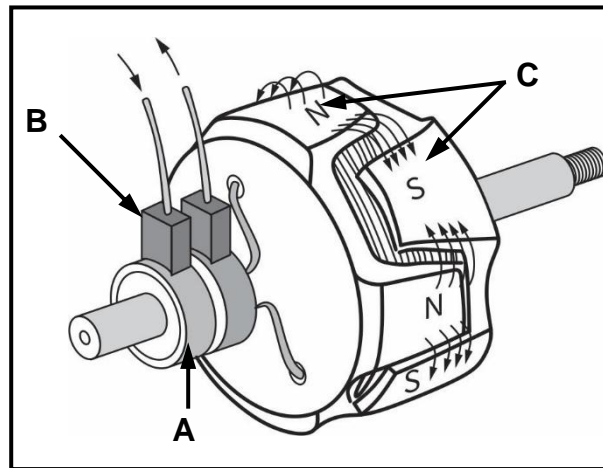

FIGURE 10.7
- 10.7 FIGURE 10.7 below shows the rotor of an alternator. Answer the questions that follow.